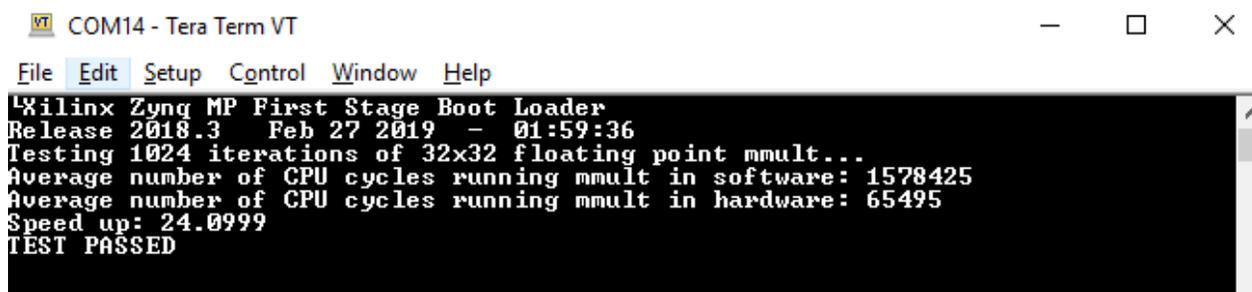

Figure 33 – Matrix Multiply Running in Both Software and Hardware, Ultra96
37. For MiniZed, skip this step. For other products with an SDCARD cage, insert the SDCARD into the SDCARD cage. Turn on the power and you should observe a similar display, as shown in Figure 33 for Ultra96 and for Figure 37 UltraZed-EV.